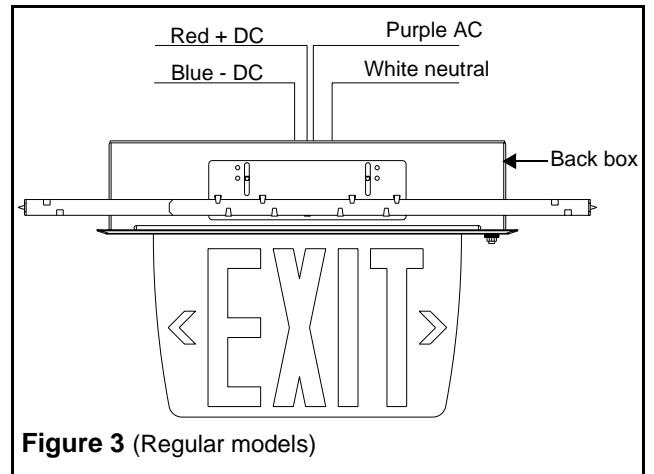

Figure 3 (Regular models)
- b. Make the proper connections (see figure 3). Our system can accept input voltages of 120 VAC to 347 VAC. For regular models connect the purple (hot) and white (common) leads to the building utility (Figure 3).